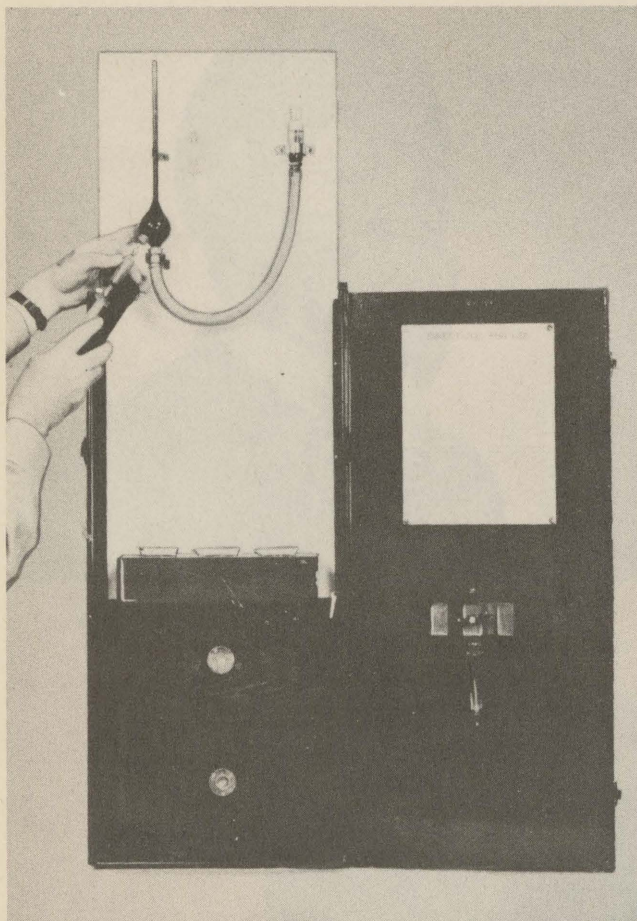
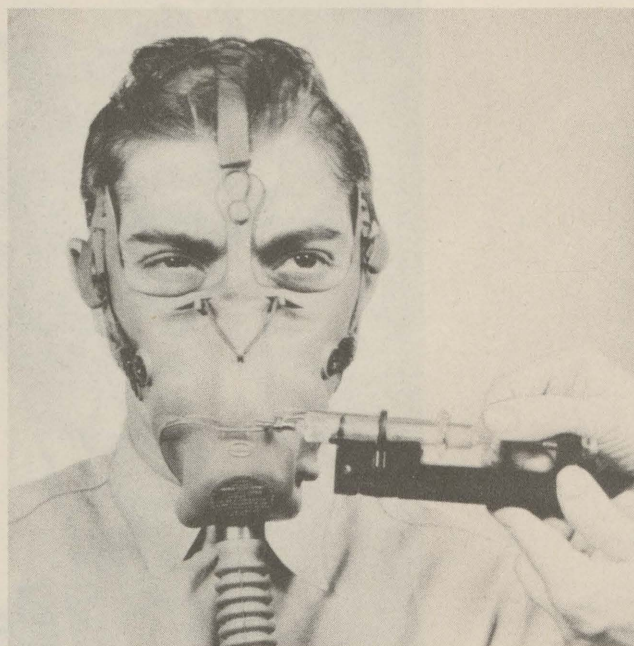

Figure 12—Type K-1 Test Kit
Figure 13—Taking Oxygen Sample from Mask
1. Most leakage is due to attempts to use masks which do not fit individual faces. The problem of mask fitting is the duty of the Group or Squadron Oxygen Officer who will use the Oxygen Officer's Test Kit, type K-1, Specification 40487, Class 05-B, Stock No. 7800-462000 (figure 12) to determine when proper fit is attained. Figure 13 shows how the test for leakage is made with the syringe.